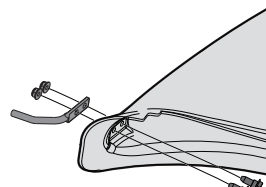

Figure 13
- From the inside of the boot, put the two hex head screws (738-1225) from hardware pack 689-00636, through the holes at the bottom at the front of the boot. See Figure 13.
- Put the mounting rod (712-06043) from hardware pack 689-00636 in place over the hex head screws. Make sure the tip of the rod is facing out from the boot. See Figure 13.
- Begin threading the flange lock nuts (712-04064) from hardware pack 689-00636 onto the hex head screws. See Figure 13.